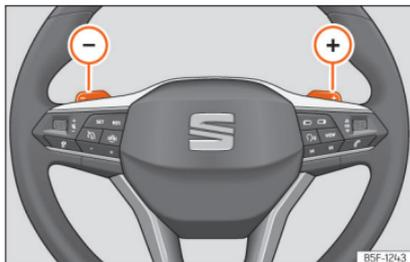

Fig. 164 Steering wheel: automatic transmission levers
- Press the gearshift paddle to select a higher gear **>>> Fig. 164**.